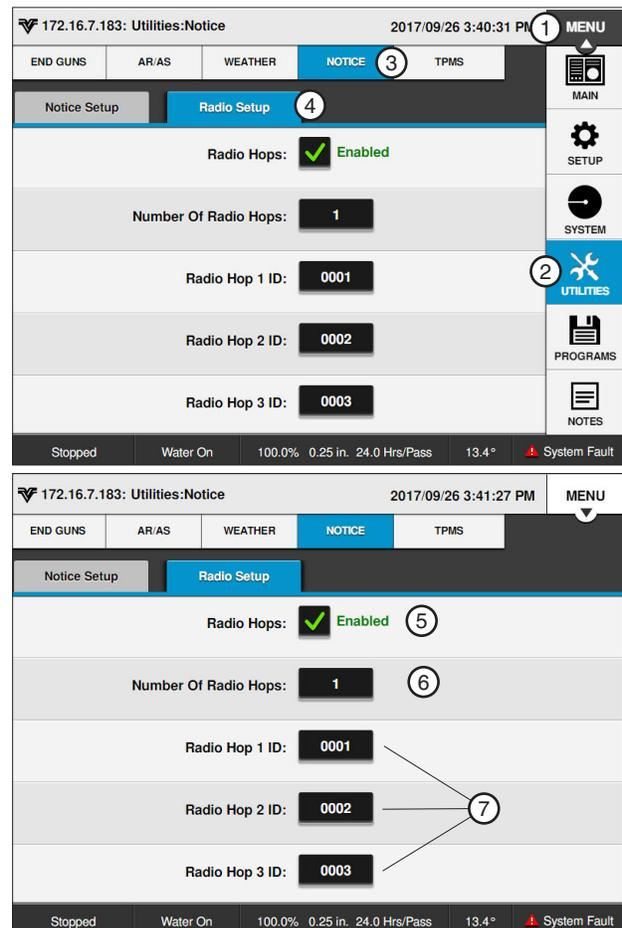

Figure 80-1 1. Menu 2. Utilities 3. Notice 4. Radio Setup 5. Radio Hops Checkbox 6. Number of Radio Hops 7. Radio Hop IDs
The Number of Radio Hops drop-down menu is used to setup the number of Radio Hops. Refer to Figure 80-1.
Use Radio Hop ID fields to setup the intermediate unit ID to be used by the control panel. Refer to Figure 80-1.
1. Push **Menu**, **Utilities**, **Notice** and **Radio Setup** to display the Radio Setup screen. Refer to Figure 80-1.